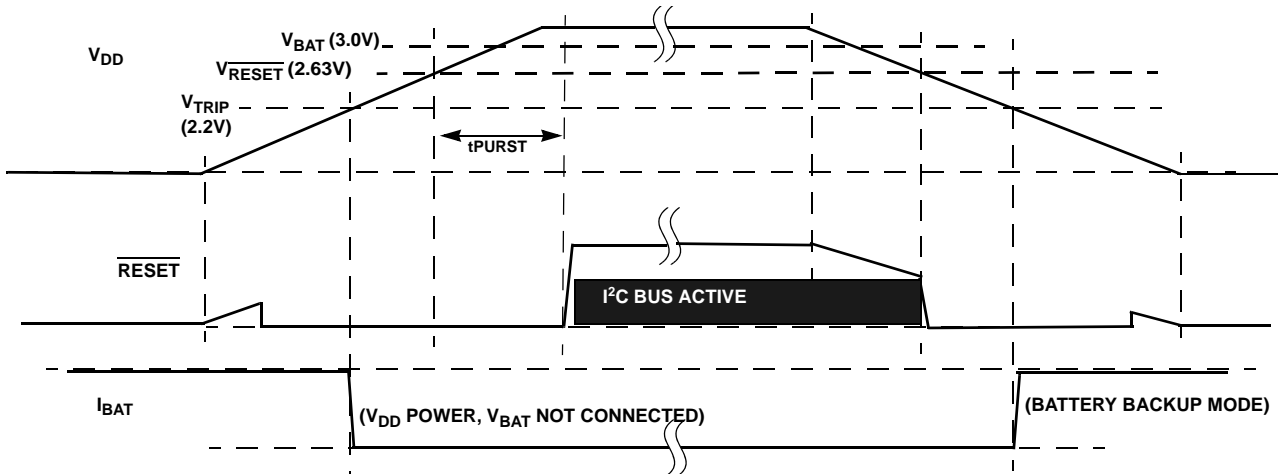

FIGURE 29. EXAMPLE RESET OPERATION IN MODE A OR C
- Mode A - In this mode, selection bits indicate a low  $V_{\text{DD}}$  switchover combined with I2C operation in battery backup mode. In actuality the  $V_{\text{DD}}$  will go below  $V_{\text{RESET}}$  before switching to battery backup, which will disable I2C ANYTIME the device goes into battery backup mode. Regardless of the battery voltage, the I2C will work down to the  $V_{\text{RESET}}$  voltage (see Figure 29).
- Mode C - In this mode, the selection bits indicate a low  $V_{\text{DD}}$  switchover combined with no communications in battery backup. Operation is actually identical to Mode A with I2C communications down to  $V_{\text{DD}} = V_{\text{RESET}}$ , then no communications (see Figure 29).